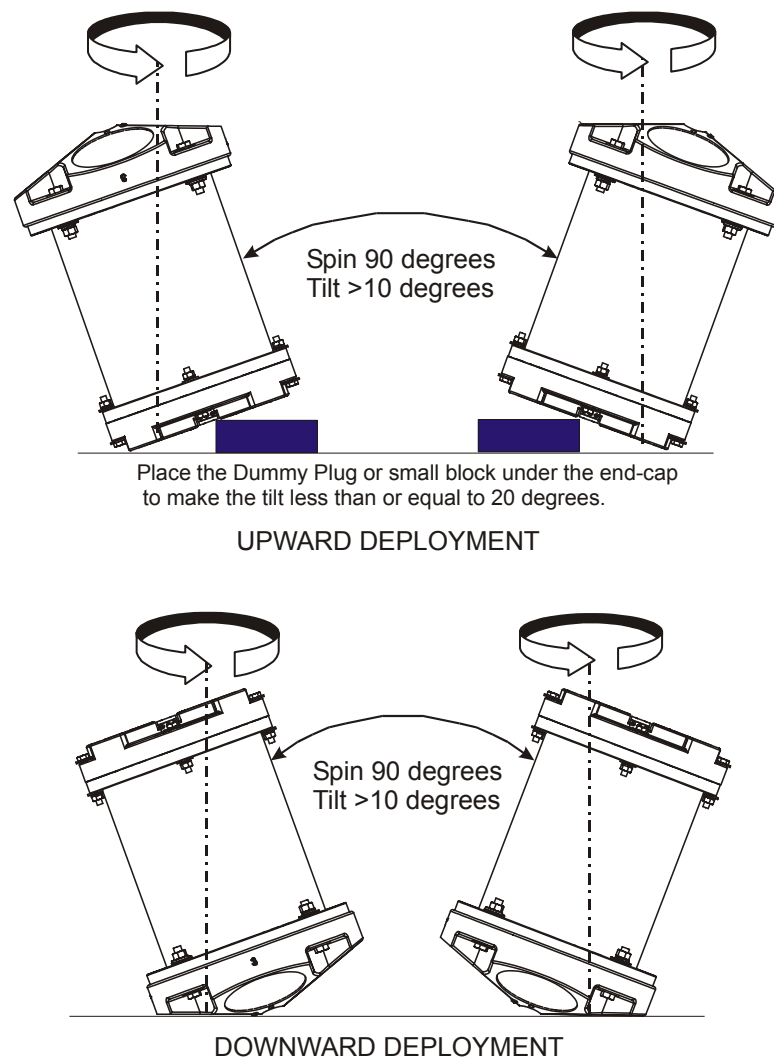

Figure 9. Compass Alignment
- d. Tilt the ADCP (see Figure 9, page 22). Tilt an upward-looking Workhorse with a block under one side of the end-cap. A 35-mm block will give you an 11-degree tilt. Check the on-screen instructions to see if the orientation is OK. Adjust as necessary.
- f. The second rotation requires the ADCP to be tilted 15 degrees in another direction than from the first rotation (see Figure 9, page 22). Follow the on-screen instructions to orient the ADCP correctly. When prompted, rotate the ADCP slowly 360 degrees (approximately 5 degrees per second).